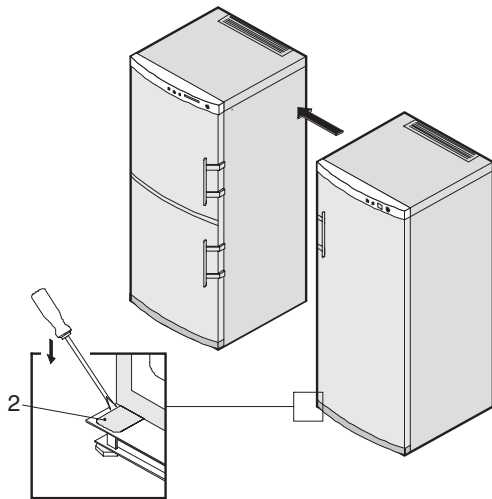

Figure 25
2. Carefully lift the cover plates (**Fig. 25, 2**) at the side with the screwdriver and remove.